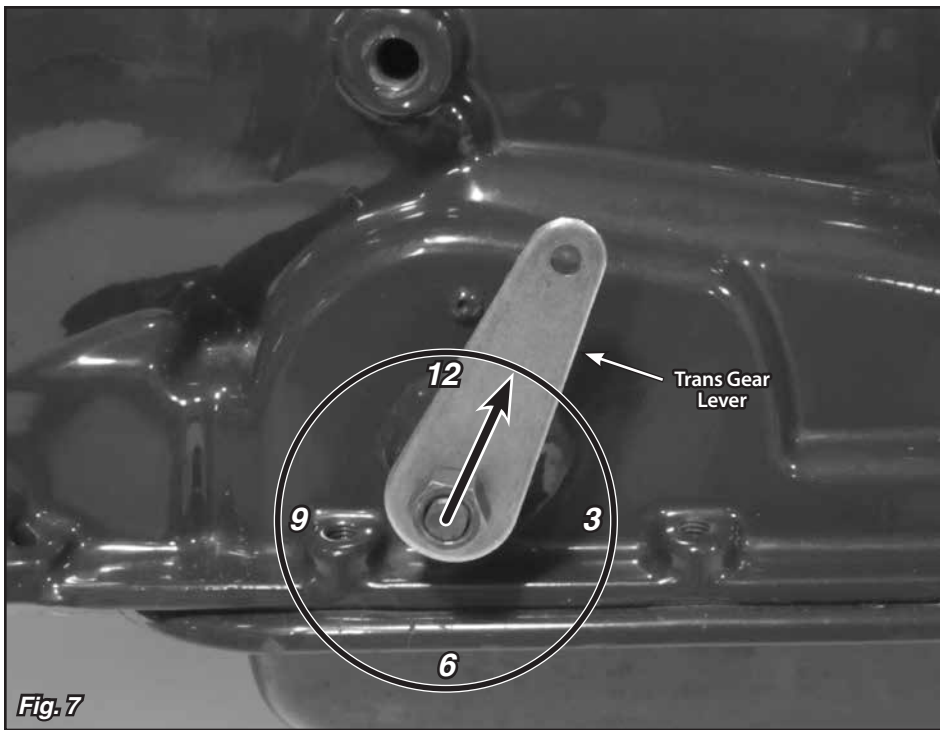

Fig. 7
**Step 12:** Remove the rod end from the new trans gear lever. Install the trans gear lever onto the transmission and secure with your original nut. Place the trans gear lever in the Park position with the top of the lever pointing up and slightly towards the rear of the transmission, at about the 1:00 position. **Fig. 7**